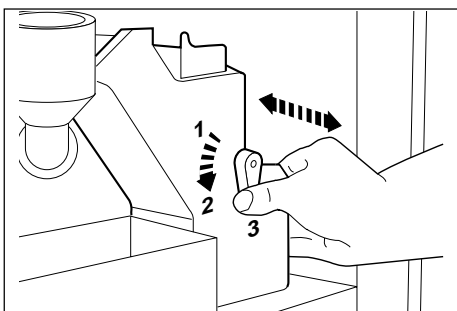

Fig. 28
- Remove the brew group by pressing down and keeping the lever on position 3 (Fig. 28). Rinse the brew group with warm water, dry it thoroughly and replace it thoroughly, always holding the lever on position 3. The brew group should fit snugly into place with a slight clicking sound.